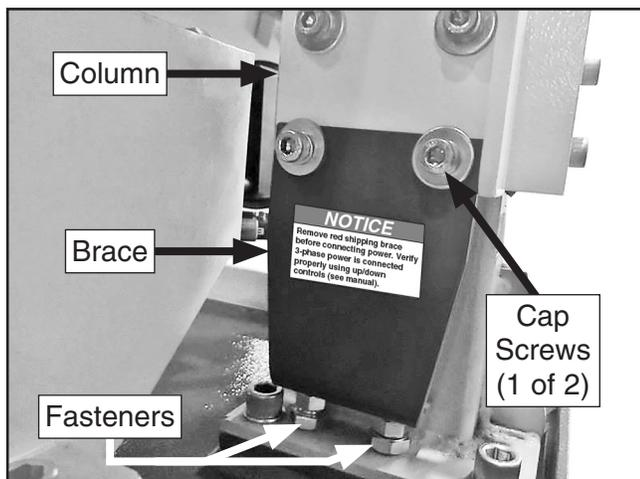

Figure 1. Location of shipping brace.
1. Remove shipping brace at base of headstock support column (see **Figure 1**).
2. Re-install two cap screws (see **Figure 1**) and washers in column. Fasteners at bottom of brace do not need to be re-installed.